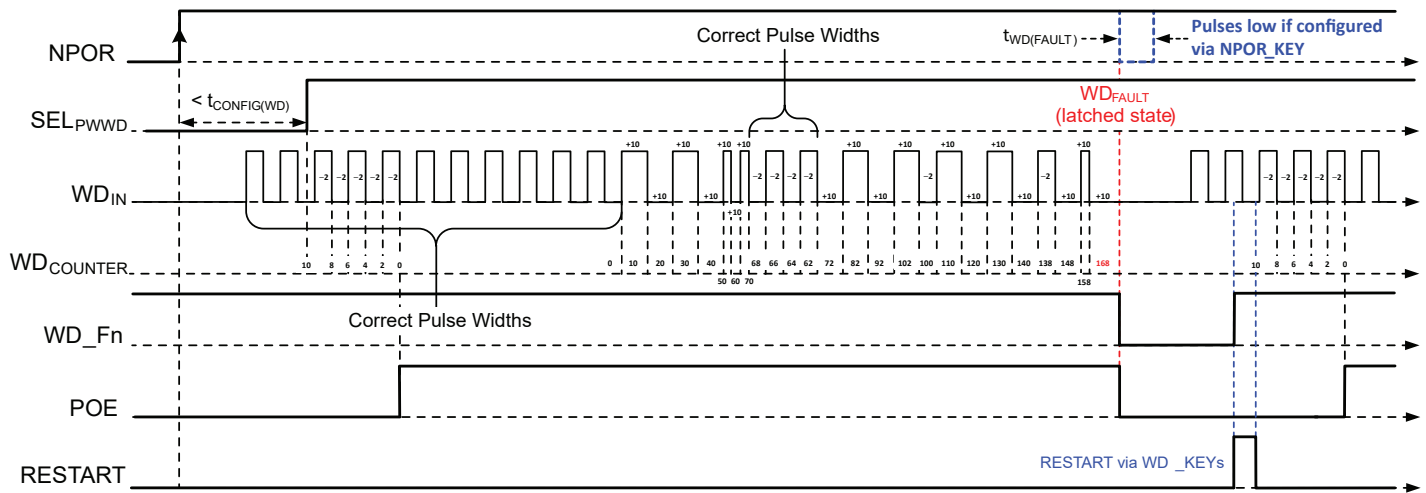
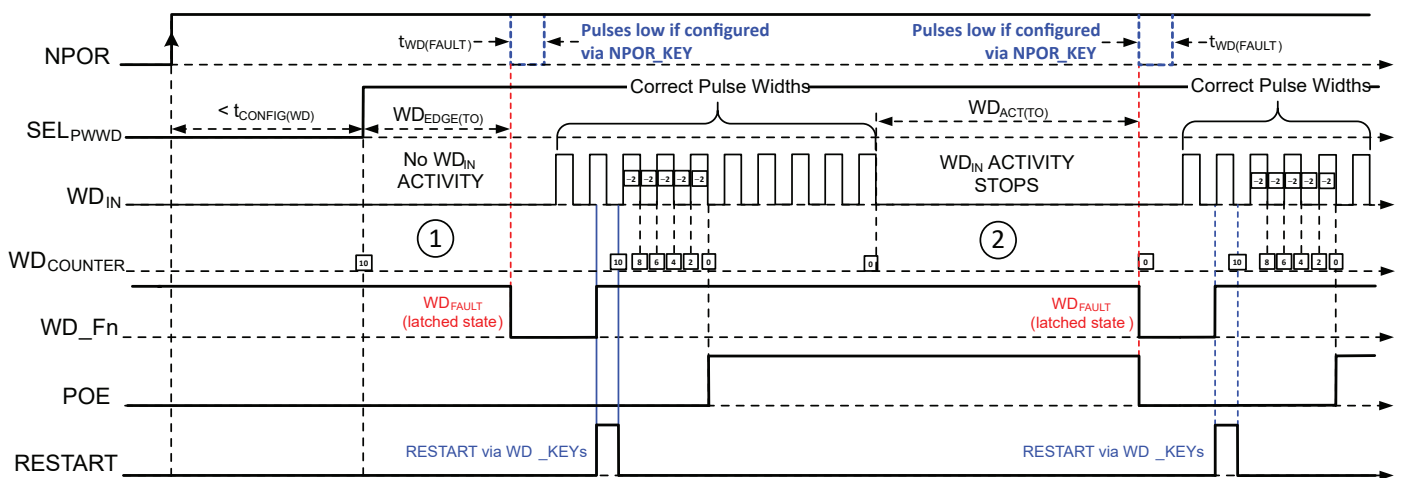
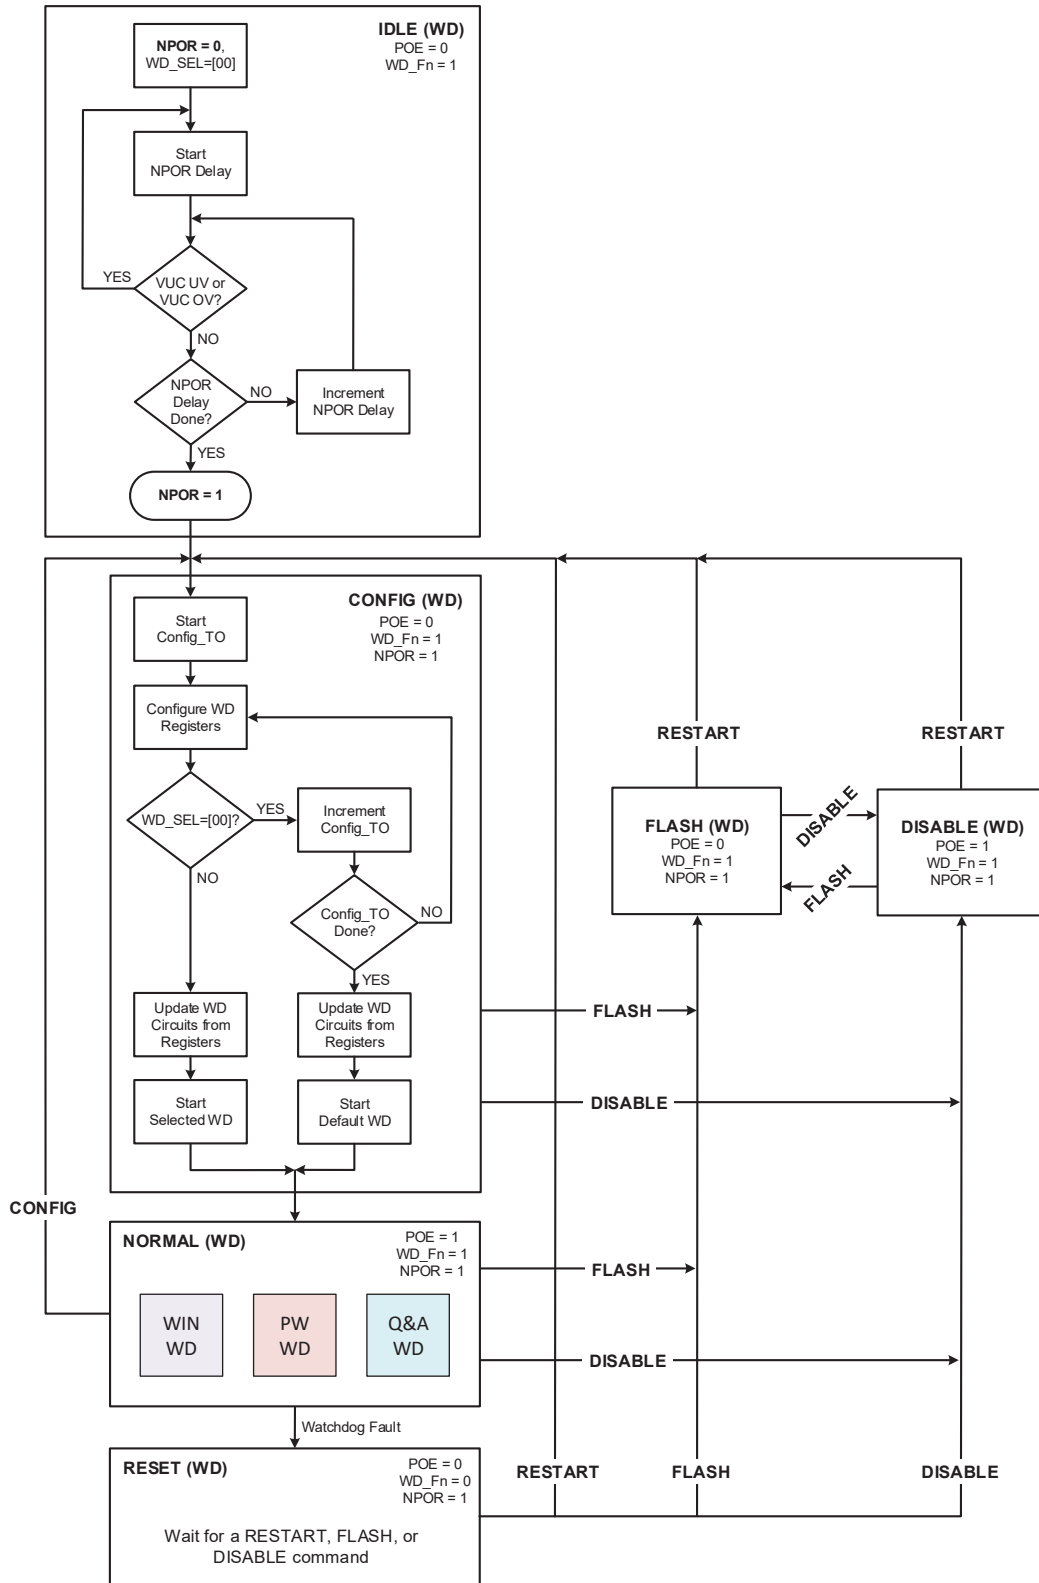

Figure 6: Watchdog (WD) operation with both correct and incorrect pulse widths.
Figure 7: Watchdog operation with faults from:
Figure 12: State Diagram of Watchdog Operation
The Pulse Width Watchdog circuit monitors an external clock applied to the WD_{IN} pin. This clock should be generated by the primary microcontroller or DSP. The PWWD watchdog measures the time between two clock edges, either rising or falling. So the watchdog effectively measures both the “high” and “low” pulse widths, as shown in Figure 6. By default, the nominal WD_{IN} pulse width (PWWD_PW) is set to 1 ms, but can be modified to 0.5, 1.5, or 2 ms via SPI.
If an incorrect pulse width is detected, the watchdog increments its fault counter by 10 (default). If a correct pulse width is detected, the watchdog decrements its fault counter by 2 (default). If the watchdog fault counter exceeds 160 (default), then both the WD_{Fn} and POE pins transition low. Operation of the PWWD is shown in Figure 6 and Figure 7. The increment value (PWWD_INC), decrement value (PWWD_DEC), and maximum fault count (PWWD_MAX) all have alternate values that can be accessed via SPI.
This delay should allow ample time for the microcontroller to modify the registers via SPI and begin delivering a clock to the WD_{IN} pin. The $t_{CONFIG(WD)}$ time is shown in Figure 6, Figure 7, and Figure 12. Alternatively, if the microcontroller quickly modifies all registers and generates the WD clock, t_{CONFIG} may be too long. In this case, simply setting $WD_SEL_{(1:0)} \neq [00]$ will bypass any remaining t_{CONFIG} time and move the state machine from the CONFIG to the NORMAL state. Both cases are shown in the watchdog state diagram, Figure 12.
Clock pulses from the microcontroller must be applied to WD_{IN} before the watchdog is selected (via WD_SEL) or restarted (via the 3-word WD_KEY command). The PWWD error counter can be preloaded to a value set by PWWD_POE_DLY (default of 2). Preloading the error counter forces the microcontroller to send valid pulses before POE transitions high, effectively “pre-qualifying” the performance of the microcontroller. Figure 6 and Figure 7 demonstrate prequalification with PWWD_POE_DLY set to a value of 10, which requires 5 valid clock pulses (–2 counts per valid clock pulse) before POE transitions high.
After moving into NORMAL operation, if no clock edges are detected at WD_{IN} for PWWD_EDGE_TO, both WD_{Fn} and POE pins transition low. By default, PWWD_EDGE_TO is 5 ms, but can be modified to 2.5, 10, or 15 ms via SPI. The “edge timeout” condition is shown as (1) in Figure 7.
While in the NORMAL state, if clock activity at WD_{IN} terminates for at least PWWD_ACT_TO, both WD_{Fn} and POE pins transition low. By default, PWWD_ACT_TO is 16 ms, but can be modified to 8, 24, or 32 ms via SPI. The “loss of clock activity” condition is shown as (2) in Figure 7.